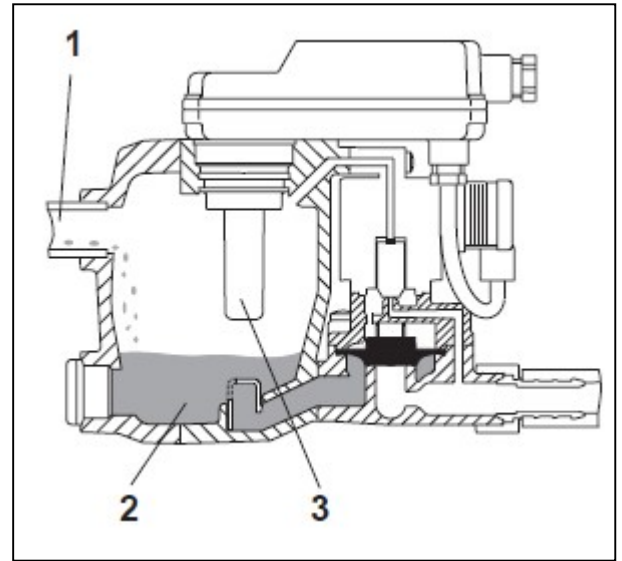

Fig.1
(1) DB1006E/3006E, DB1024/3024 (Fig.1,2)